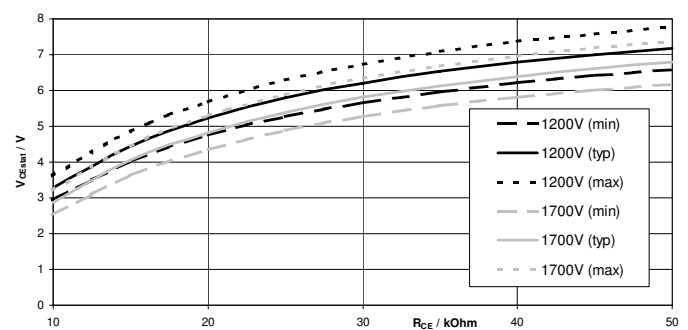

Fig. 4 V_{CEstat} in dependence of R_{CE} ($T_{amb} = 25^{\circ}C$)
2. Calculate approximate value of R_{CE} according to equation (1) or (1.1) from V_{CEstat} or determine R_{CE} by using fig.4.
3. Determine t_{min} and calculate C_{CE} according to equations (2) and (3).